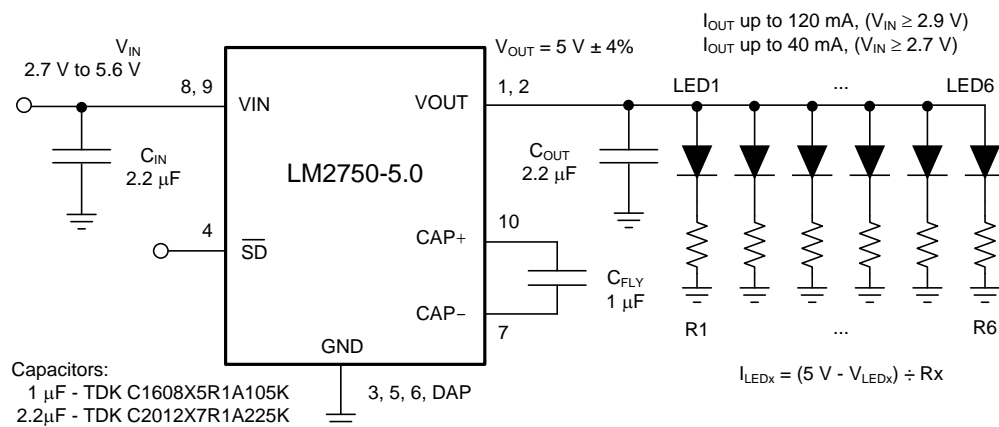
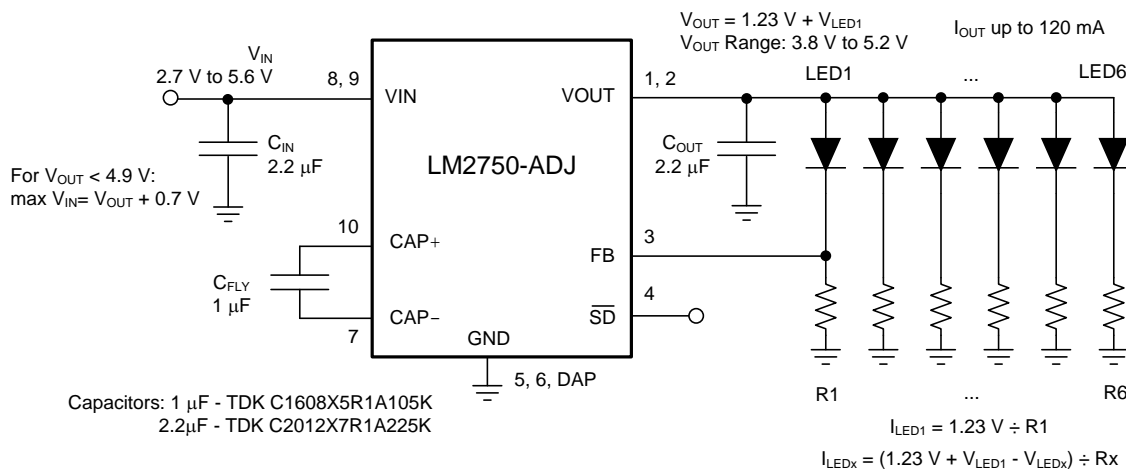

Figure 15. LM2750-5.0 LED Drive Application Circuit
Figure 16. LM2750-ADJ LED Drive Application Circuit
The LM2750 is an excellent device for driving white and blue LEDs for display backlighting and other general-purpose lighting functions. The circuits of Figure 15 and Figure 16 show LED driver circuits for the LM2750-5.0 and the LM2750-ADJ, respectively. Simply placing a resistor (R) in series with each LED sets the current through the LEDs:
The feedback pin of the LM2750-ADJ can be utilized to help better control brightness levels and negate the effects of LED forward voltage variation. As shown in Figure 16, connecting the feedback pin to the primary LED-resistor junction (LED1-R1) regulates the current through that LED. The voltage across the primary resistor (R1) is the feedback pin voltage (1.23 V typical), and the current through the LED is the current through that resistor. Current through all other LEDs (LEDx) is not regulated, however, and varies with LED forward voltage variations.